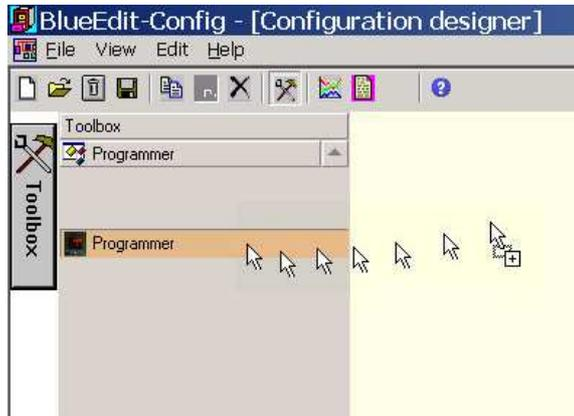

Fig. 19: Adding a programmer
Set "Options" to Import programmer from XML symbol file. For this, select the relevant symbol file (Fig. 19: Adding a programmer).
*To select a programmer, double click the required programmer function block from the offered engineering hierarchy (available programmers, Fig. 19: Adding a programmer).*